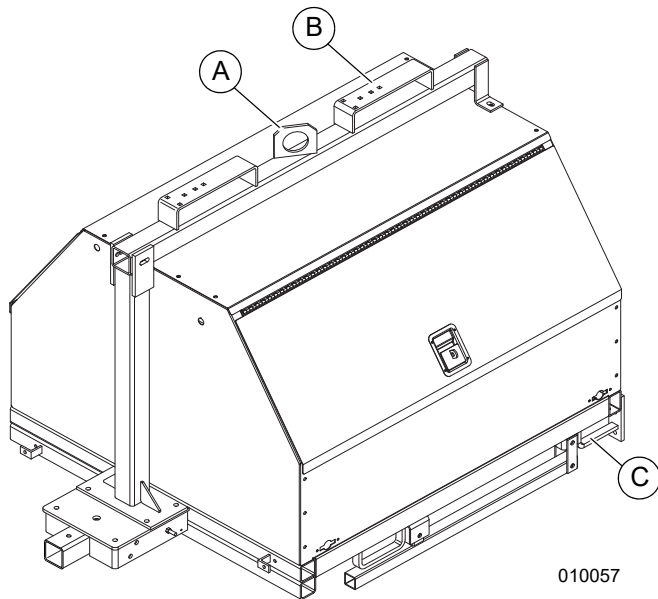

Figure 3-7. Lifting Points
See **Figure 3-7**. Unit is equipped with central lifting point (A), upper fork pockets (B), and lower fork pockets (C).